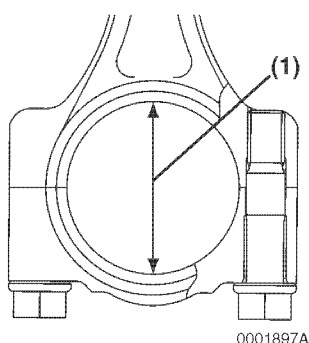

Figure 6-56
2. Inspect the bearing insert for separation or damage (**Figure 6-56**).
4. Measure the inside diameter (**Figure 6-56, (1)**). Record the measurement. Compare the measurement with crankshaft rod journal outside diameter to calculate oil clearance. See *Crankshaft* on page 6-8 and *Piston* on page 6-10 for specifications.